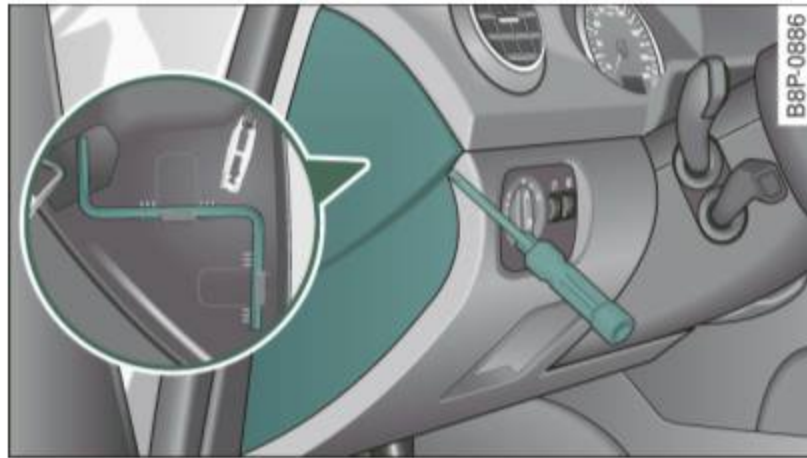

Fig. 64 Left end face of the instrument panel: fuse cover with hand crank
- Use the screwdriver to remove the fuse box cover ⇒ fig. 64.
- Install the end of the screwdriver handle onto the short side of the crank to help you turn it ⇒ fig. 64 ①.
- Return the crank to its location in the fuse box cover ⇒ fig. 64 and install the cover.